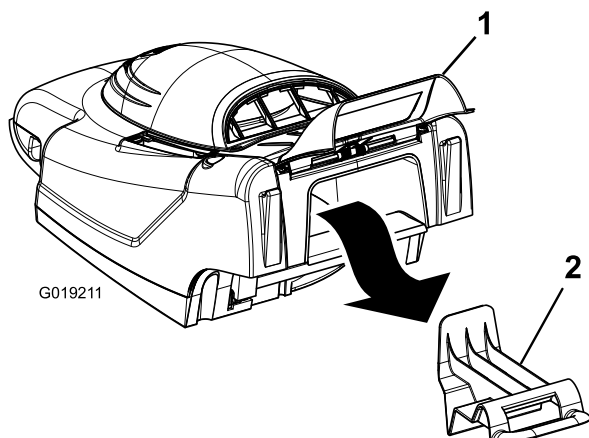

**Figure 13**
2. Pull the height-of-cut lever out of the position slot it is in, and move it forward or rearward to the desired slot (Figure 13).